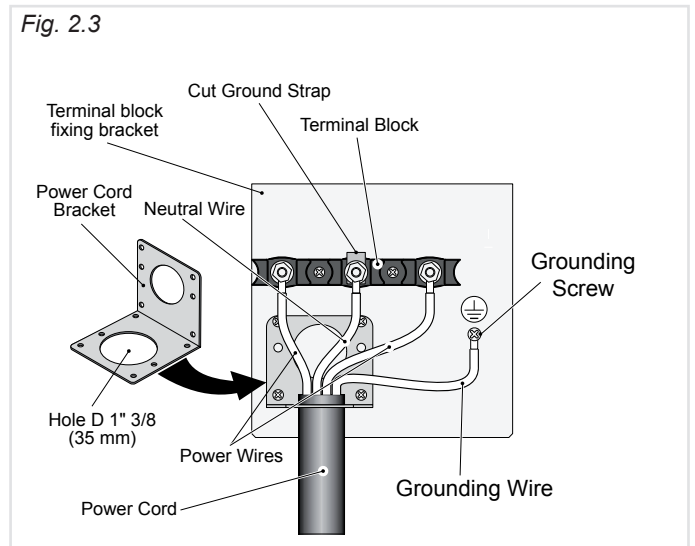

Fig. 2.3
2. Check the correct positioning of the **Power Cord Bracket** as per figure 2.3.
5. Remove the **Ground Strap** from the frame of range and terminal by removing its screw and cutting it as shown in figure 2.3.